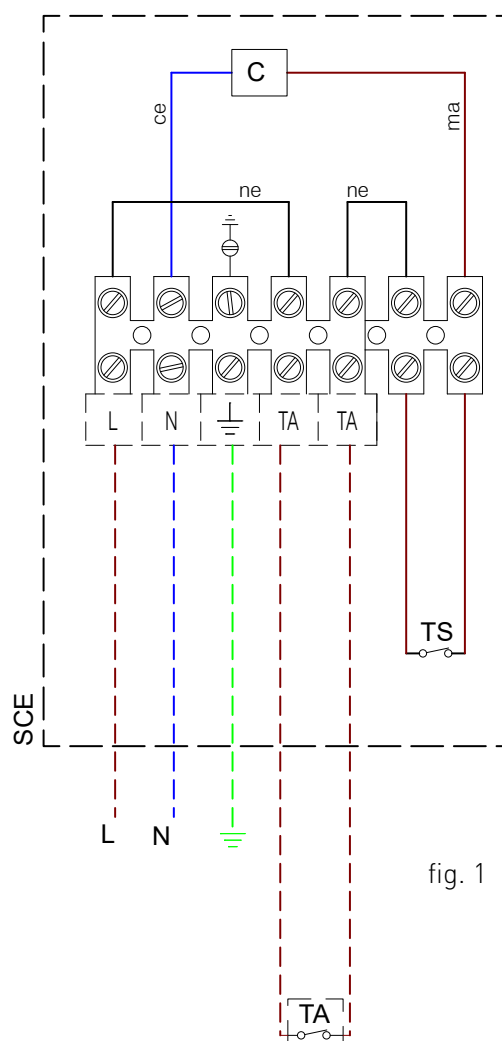

fig. 1
- › remove the cover of the electrical box and make the following connections on the terminal board (see Fig. 1):